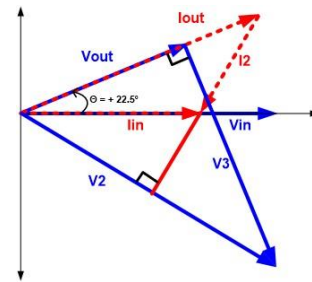

Figure 7: V₂ & V₃ Phasor Diagrams
Using V₃ is perpendicular to I_{out} and (4) to determine V₂ direction, **Figure 7** shows the V₂ and V₃ phasor diagram.